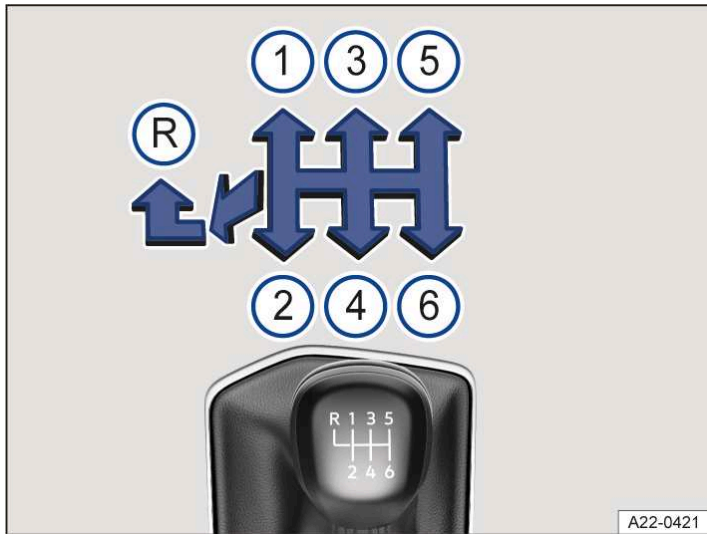

Fig. 1 Gear shift pattern of a 6-speed manual gearbox. Depending on the equipment level, your vehicle may have a 5-speed manual gearbox.
2. Move the gear lever to the required position → Fig. 1 (1).
3. Press the gear lever fully to the left and then forwards into the reverse gear position → Fig. 1 (R).